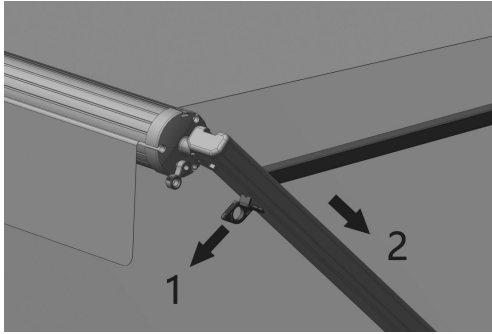

Figure D15
4.2.4 Pull the latch and push the inner rod back along the support arm. (Figure D15)